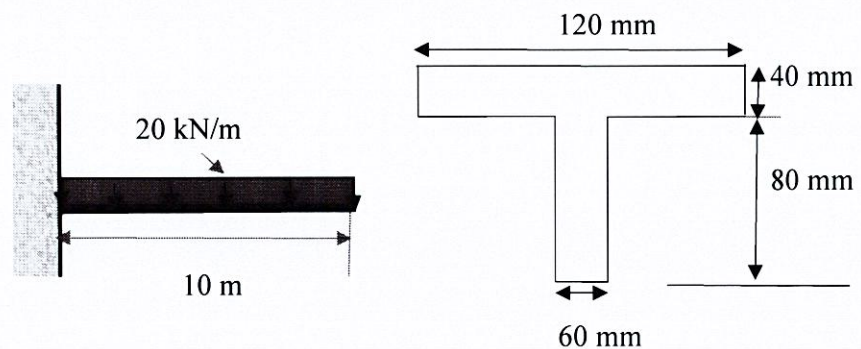

Figure 3(b)/ Rajah 3(b)
- (b) A cantilever beam 10 m long carries a uniformly distributed load along the span of the beam. The cross-section is as shown in Figure 3(b). Calculate: